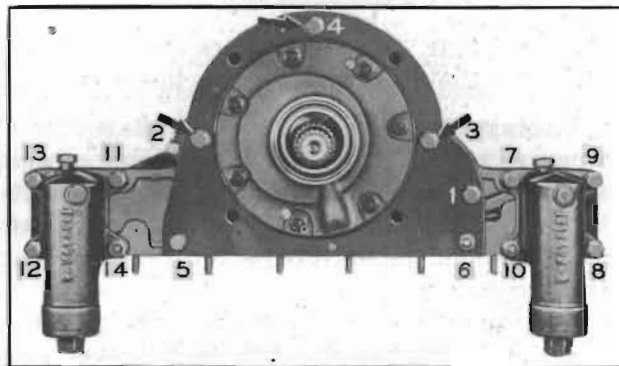

Figure 4-141—Reaction Shaft Flange and Accumulator Bolt Tightening Sequence
6. Install 3 special bolts ($\frac{3}{8}$ "-16x2") with plain washers in positions marked 2, 3, 4 in figure 4-141. These bolts are for assembly purpose only. Install regular pump cover bolts, nuts, and lockwashers at positions marked 1, 5, 6. Coat threads of bolt No. 5 with Permatex No. 3.
7. Referring to figure 4-141, tighten all bolts and nuts (1 through 14) to 5 ft. lbs. torque in the numerical sequence shown. Following the same sequence again, tighten bolts 1 through 4 to 35-40 ft. lbs. and the remaining bolts and nuts to 20-25 ft. lbs.